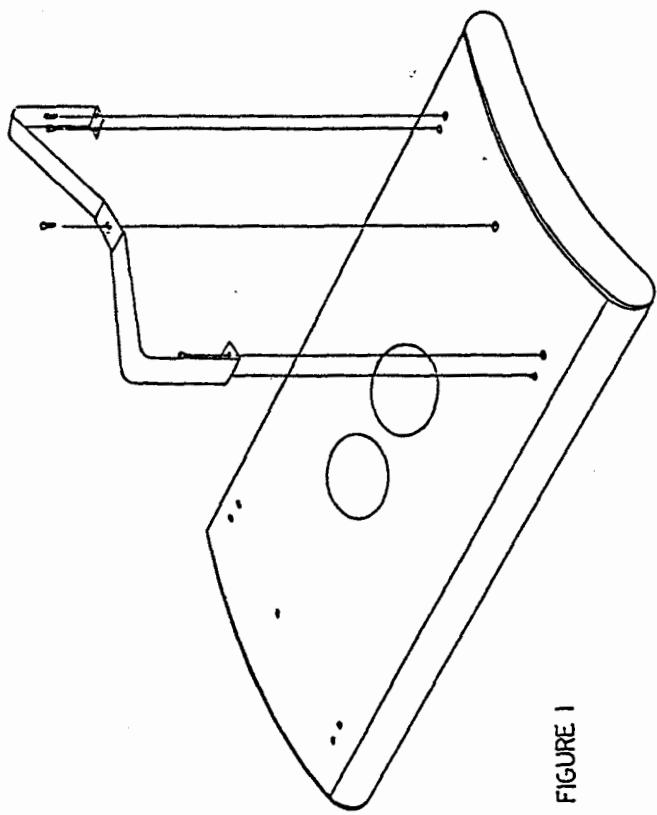

FIGURE 1
Remove the sunbed unit from the carton marked "sunbed", and lay it on carpet or similar surface (to prevent scratching) with the acrylic side down (see figure 1).
Locate the ten (10) 1/4" allen head screws in the carton marked "arm kit" and attach the legs as shown in figure 1. When the legs are securely fastened, turn the unit over so that the acrylic side is up and the unit is standing on its legs.
Carefully remove the sunbed unit from the carton marked "sunbed" and lay it on carpet or similar surface (to prevent scratching) with acrylic side down (see figure 1).